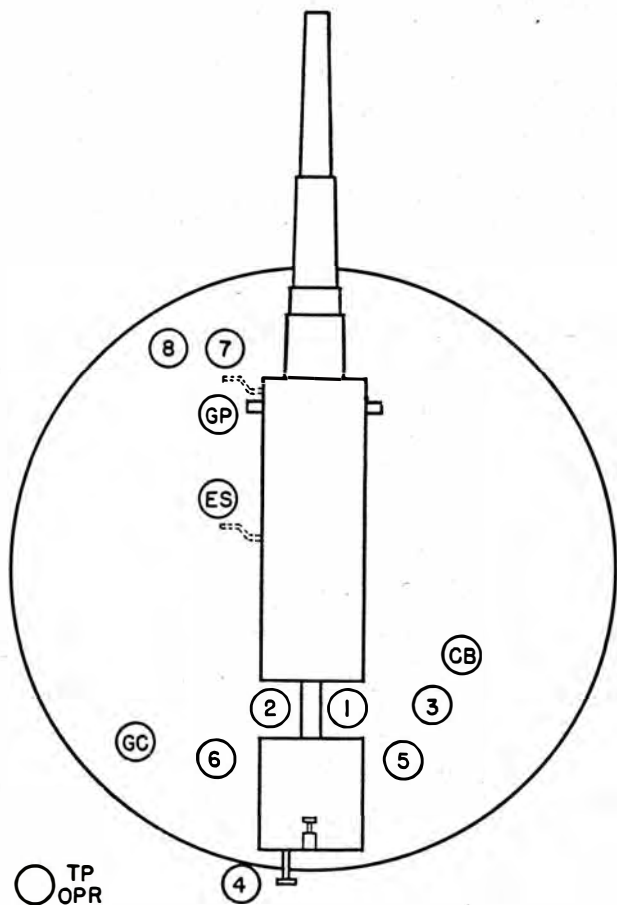

Figure 3. Posts of members of the gun squad at completion of the command DETAILS, POSTS.
(1) Training and efficiency of the personnel of his squad.
(2) Condition of the materiel under his charge.
(3) Preparation of the piece for firing, including camouflage discipline and gas discipline when necessary.
(4) Firing the piece.
(5) Observance of all safety precautions pertaining to the service of the piece.
(6) Police of the emplacement.
b. Having posted his detail (fig. 3) and given the command EXAMINE GUN, he personally makes an inspection of the gun, carriage, and other materiel, giving particular attention to the recoil and counter-recoil systems, firing mechanism, safety devices, and the oiling of all bearing surfaces.
(1) In case III firing, the gun commander fires the gun or gives the command FIRE on the next time interval, or, if the battery is using a gun data computer, as soon as the gun is ready. His procedure is determined by the following: